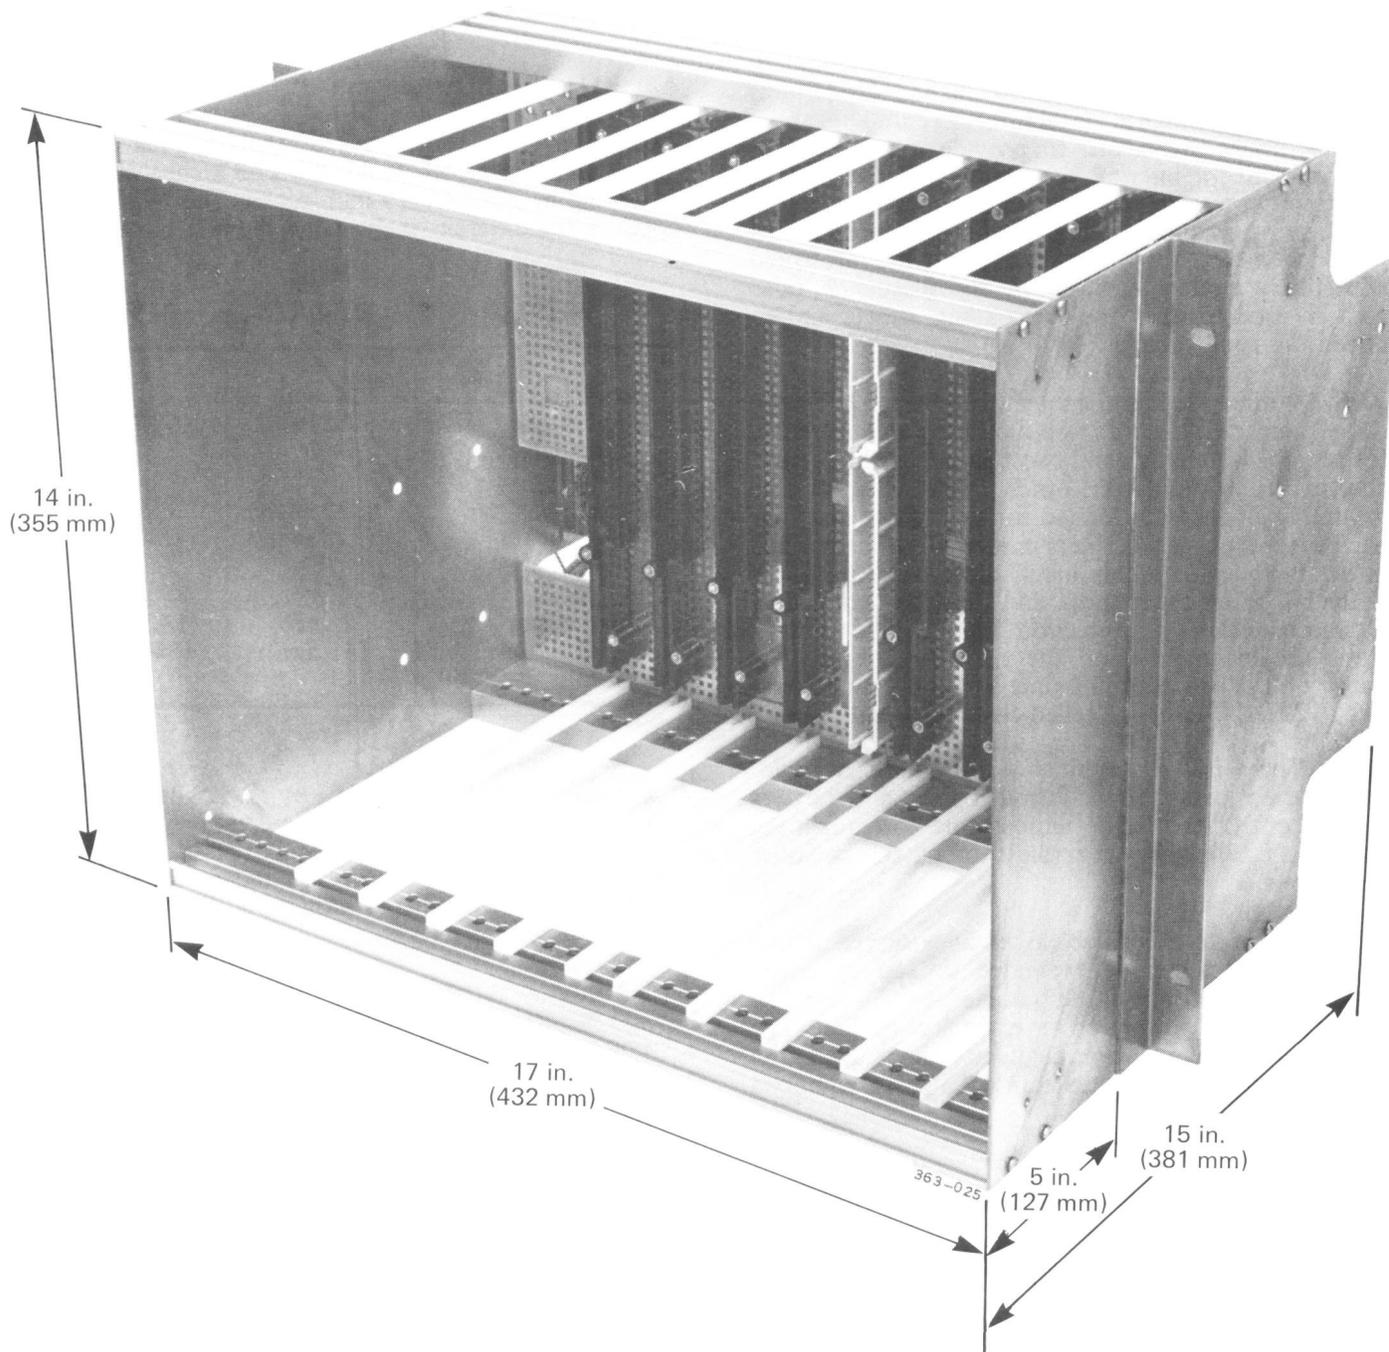

Fig. 4 — Typical Shelf Construction
2.10 The common shelf, power shelf, and line shelves are constructed of two steel sideplates. Two aluminum extrusions at the top and two at the bottom, support nylon guides for the circuit packs and a Printed Circuit Board (PCB) backplane (Fig. 4). The order-wire and fault-locate shelf, with the exception of wire-wrapped connectors instead of a PCB backplane, is of similar construction.